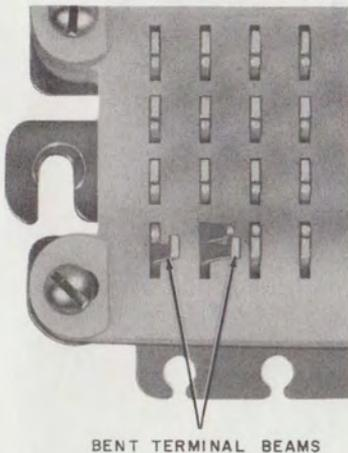

Fig. 19—Misaligned Terminal Beams
7.02 Terminals which have been bent or misaligned, as shown in Fig. 19, may be corrected by using long-noise pliers (Fig. 20). The bent beam should be moved until it is aligned with its mate or with other terminals of the same row. Care should be taken not to move beams or terminals in a direction which would spring or open the contact surfaces between the two beams.